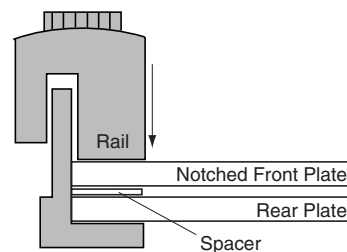

Figure 2-4. Bottom view of assembled gel apparatus showing the proper fit of the plates and spacer in the rail
4. Check to make sure the rails fit tightly against the edges of both glass plates (Figure 2-4). The spacer must also be tight against the rail. A leak will occur if there is a gap between the rail and either plate, or between the rail and the spacer.